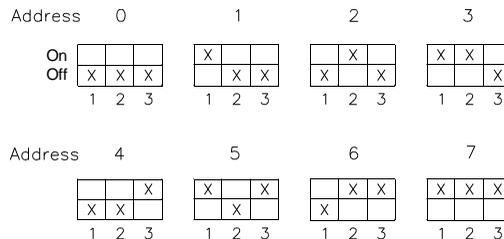

Figure 13 DIP switch settings for the SCSI ID
2. Change the DIP switch settings to the correct SCSI ID for your configuration. Figure 13 shows the settings for SCSI IDs 0 through 7.